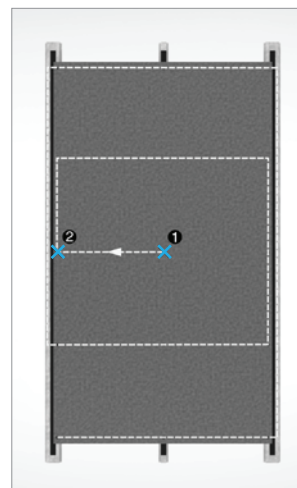

FIGURE 18.
- When installing Genesis, begin with the two fixed points (1 then 2), followed by the remaining gliding points above the fixing positions and finally the gliding points below. (see Figure 18)